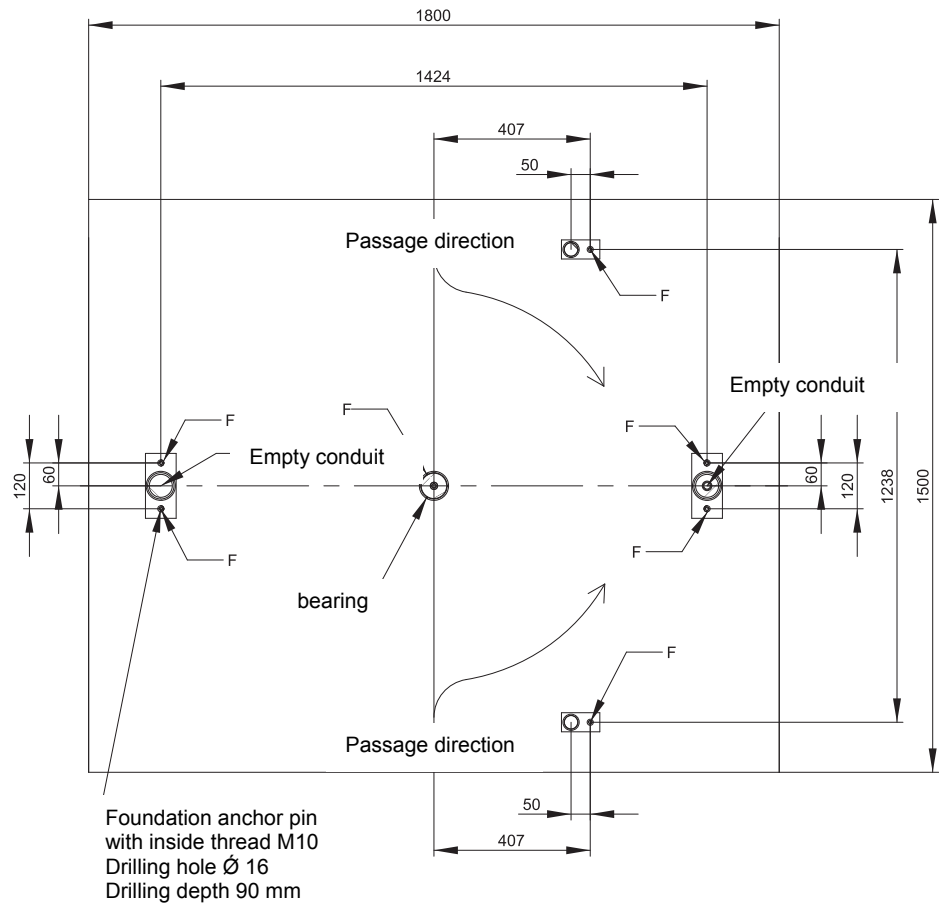

Fig.3
- Set Foundation drillings 7 x M16 as per drilling plan figure 3!